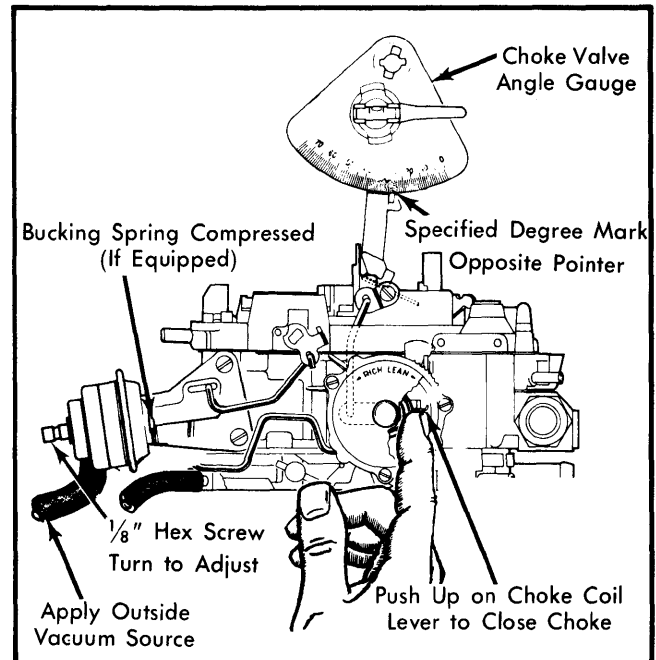

Fig. 9 Adjusting Rear Vacuum Break
1) Using an outside vacuum source of at least 15 in. Hg, seat rear vacuum break diaphragm. See Fig. 9.